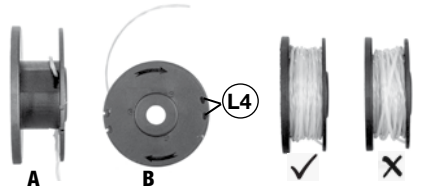

FIG 12
### LINE REPLACEMENT (FIG 12)
5. Insert one end of the new line into the hole in the center column of the spool (refer to FIG 12-A), then wind the line around the spool in the direction as shown on the spool. See FIG 12-B.